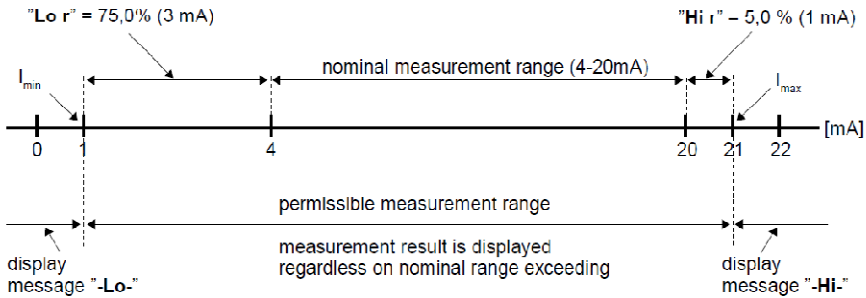

Figure 7.1 Example of definition of permissible range of input signal - "Lo r" and "Hi r" parameters ("4-20" mode)
- these parameters define the expansion of nominal range in percent. They determine the permissible range of input signal (Figure 7.1).